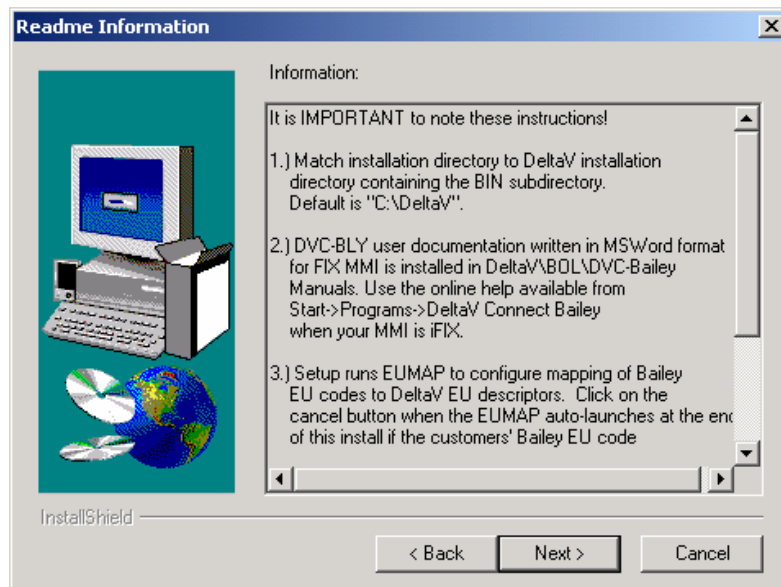

Fig 3.3.2 – Important setup information
4. The setup program will perform the install automatically. Answer any prompts as directed. Please note the important information screen (see fig 3.3.2). A new set of module blocks and templates related to the Bailey interface will be available from DeltaV Explorer (see fig 3.2.3)